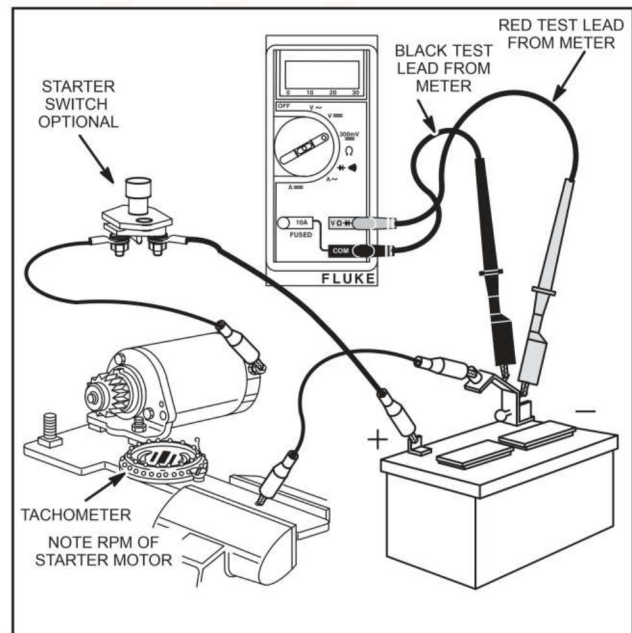

Fig. 6 – Testing Starter Motor
It is recommended that the starter motor be removed from the engine when testing starter motor performance. Remove rotating screen and blower housing. Remove two starter motor mounting screws. Assemble starter to test bracket and clamp test bracket in vise, Fig. 6.
1. The DC Shunt **MUST** be installed on the **negative** (-) battery terminal as shown in Fig. 6.